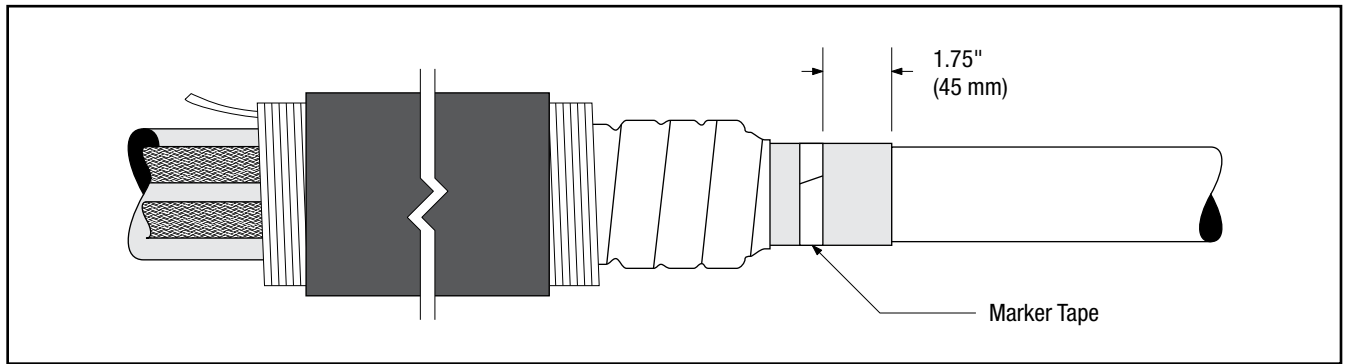

Figure 11
4.2 Place a marker tape on the cable semi-con located 1.75" (45 mm) from the end of the semi-con. (Figure 11)